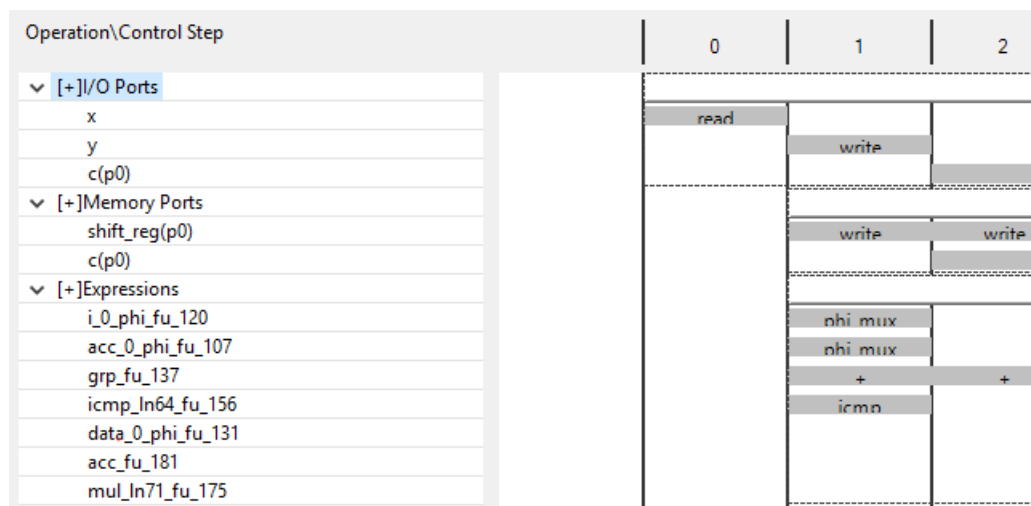

Figure 2-26: Solution2 Analysis Perspective: Resource
3. Click the **Resource** view, as shown in Figure 2-26.
Figure 2-26 shows: